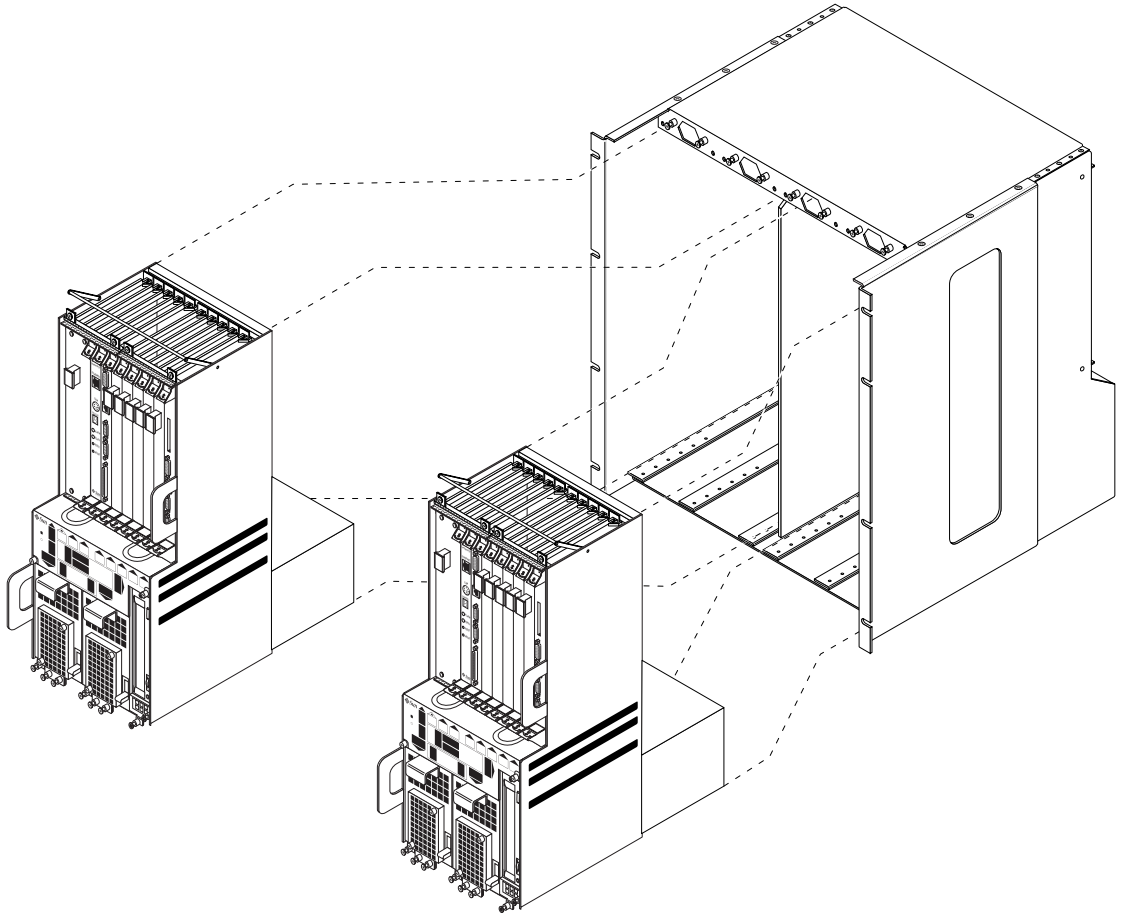

FIGURE 1-10 Two Netra ct 800 Servers in a Chassis
- One or two Netra ct 800 servers (FIGURE 1-10)